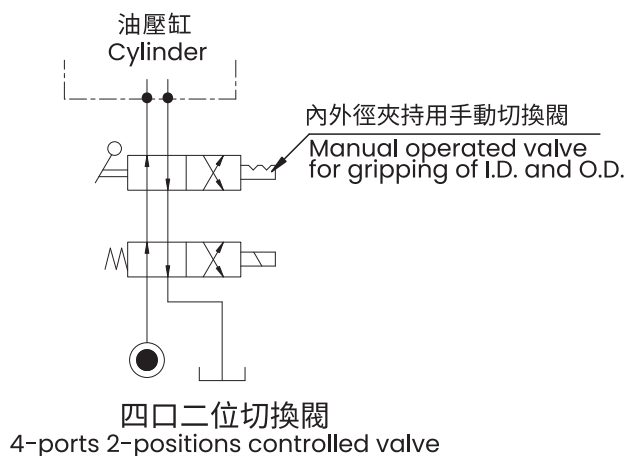

Fig.10
油壓迴路的設計是基於操作簡便和安全的原則，提供安全迴路，以防止停電時所產生的危險。(Fig.10)
- 如採 4 口 2 位電磁閥設計油壓缸之切換作用，迴路則須設計成在脫磁狀態時，工件仍能被夾持。(Fig.10)
- 防止由內徑夾持切換至外徑夾持之錯誤操作，須提供一個 4 口 2 位電磁閥來保持固定其位置。(Fig.10)
Design the hydraulic operation circuit so that it is easily operated and mis-operation does not occur. Provide the fail-safe circuiting so that the accident does not occur even if the power source is interrupted. (Fig.10)
- In order to make the change-over of cylinder by use of the 4-port 2-position solenoid valve, the hydraulic circuit should be so designed as to grip the work when solenoid controlled is demagnetized. (Fig.10)
- Provide the inner dia./outer dia. gripping change valve in order to prevent mis-operation when changing from the inner dia. gripping to outer dia. When the solenoid valve is used for this change valve, use the 4-port 2-position valve with position stop. The designation circuit is to be maintained. (Fig.10)